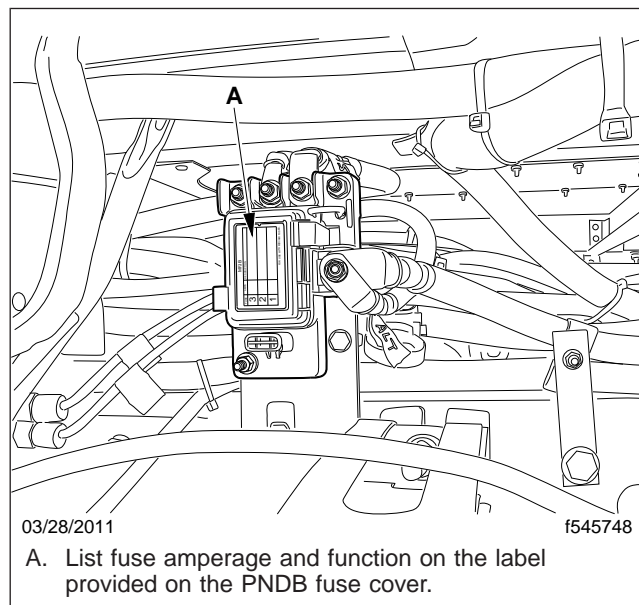

Fig. 4, PNDB Installed with New Fuses
6. Note the fuse amperage and location on the fuse cover with a permanent marker. See Fig. 4.